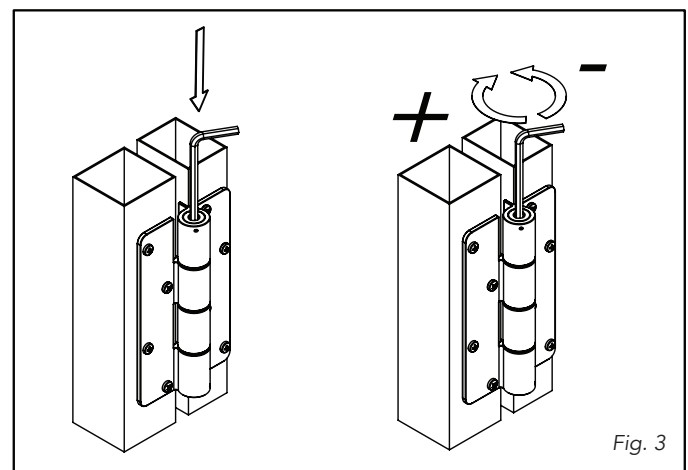

Fig. 3
1. Fix gate in desired location. Insert Allen Wrench into the cam at the end of the hinge barrel (Fig. 3).